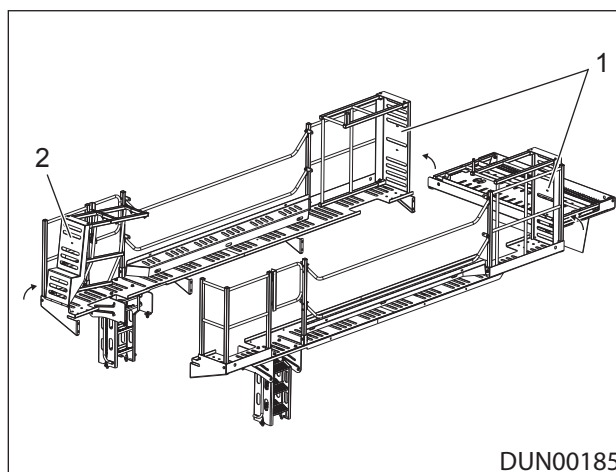

Figure 5.23 - Maintenance Platform in the Transport Position
8. Rotate the handrail sections (item 1) on both sides of the machine up into the position shown for transport, Ref: Figure 5.23.
9. Rotate the handrail section (item 2) up into the position shown for transport, Ref: Figure 5.23.